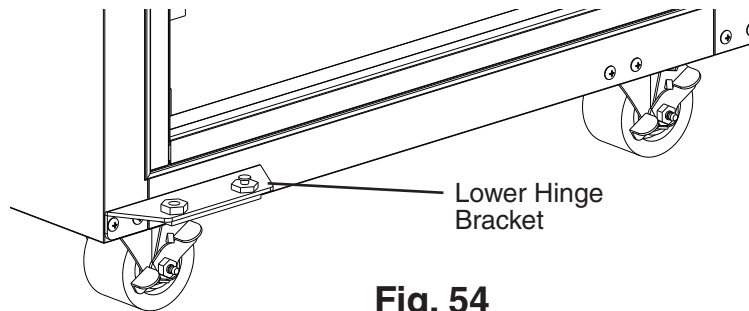

**Fig. 52**
- 10) Close the lower door. While supporting the lower door, remove the screws supporting the center hinge bracket, then lift the lower door (with center hinge bracket) from the lower hinge bracket and set aside. See Fig. 52.